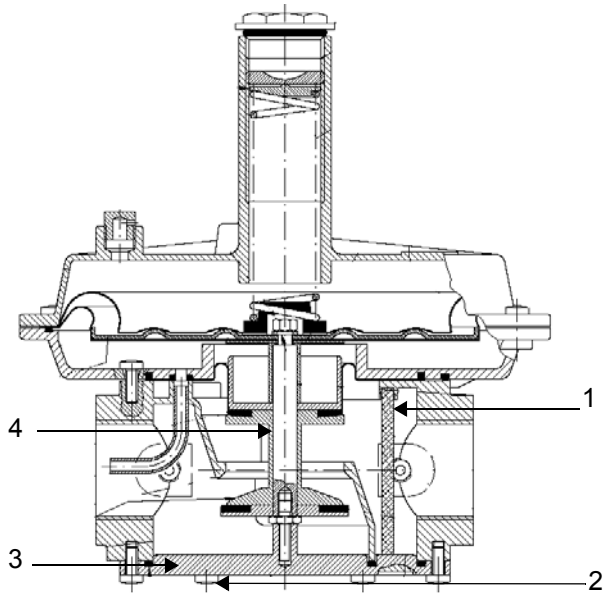
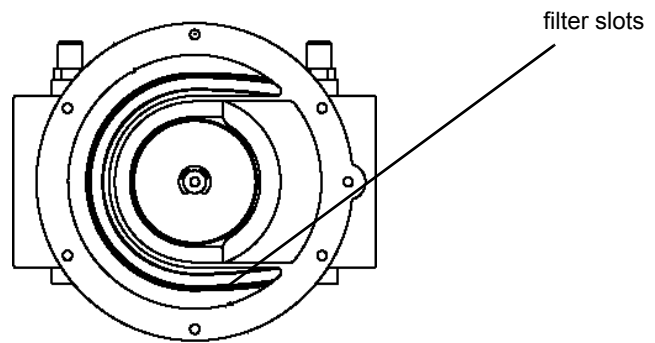

Fig. 34 - threaded body
Fig. 35 - threaded body without bottom cover
To check the filtering part (1) on threaded bodies (see Fig. 34):
- remove the filtering part (1), clean it with water and soap, blow it with compressed air or replace it if necessary;
- reassemble the filtering part in its initial position checking that it is placed in its own slots (see Fig. 35);
- reassemble the bottom cover (3), being sure that the main bolt is centered in the bottom cover slot.